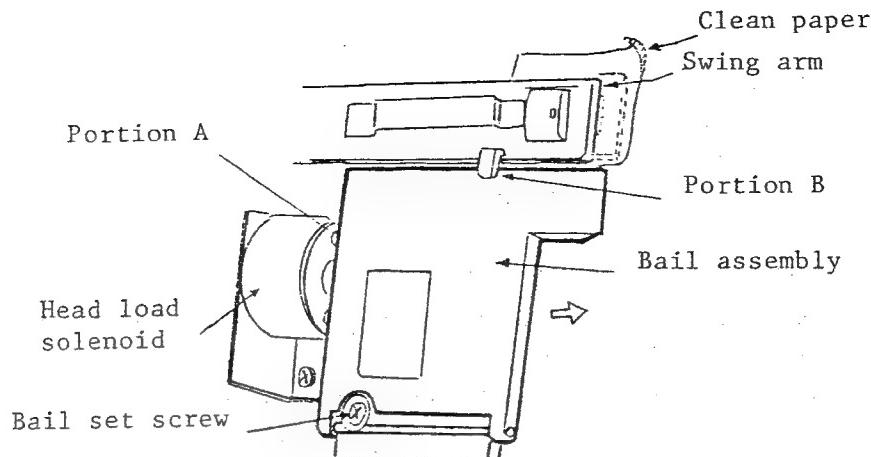

Fig. 4.9 Head Load Bail Assembly
(1) Tools and measuring instruments to be used:
(2) Disassembling
- (d) Remove a bail set screw ($M4 \times 1$), and pull out the bail assembly in the arrowed direction (Fig. 4.9). At this time, hold portion B of the head swing arm by hand to keep the head from any impact.
(3) Assembly
(4) Adjustment